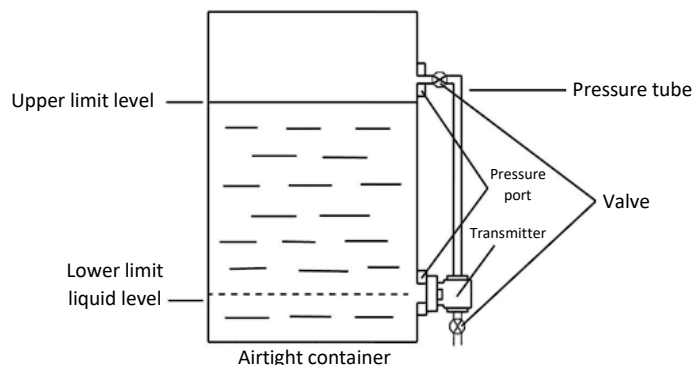

Figure 5-11 Dry pressure connection method
1. Dry pressure connection method, as shown in Figure 5-11: